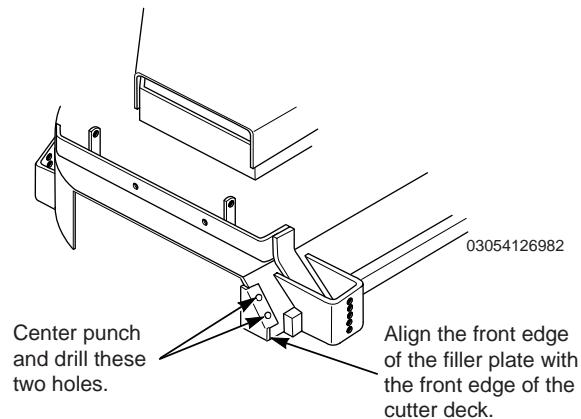

Figure 2, Bahia Filler Plate
5. Hold the filler plate to the front of the cutter deck as shown in figure 2. Center punch the two hole locations in the cutter deck. Drill the holes at the marked locations using a 1/8" drill bit, then finish drilling using a 9/32" drill bit.